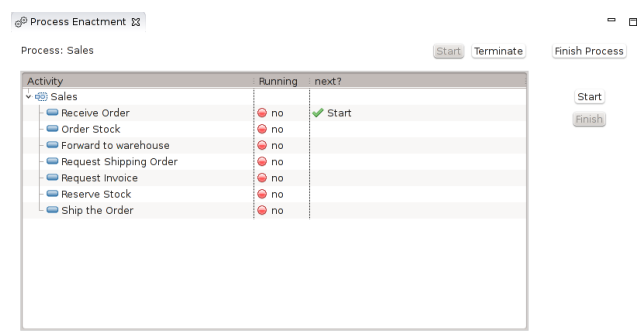

Figure 16 Enactment view - Start of Sales Process
1. Once the process is started, the user can execute its activities. In our example process model, because `Receive Order` the only activity that immediately follows the initial node, Prodan guides the user by indicating this activity as the only possibility to start enactment in conformance to the process model. Starting with any other activity would constitute a deviation (Figure 16 Enactment view - Start of Sales Process).